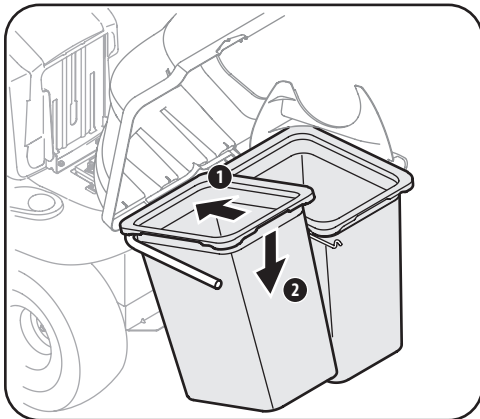

Figure 4-9
8. Install both grass bag assemblies, with the tight mesh sides facing forward, onto the bag support brackets by inserting the front edge in first, as shown in Figure 4-9, and setting the back edge down until it fits into the assembly.